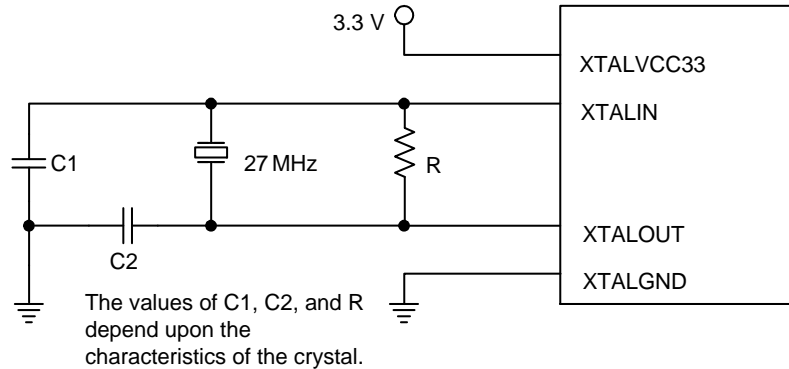
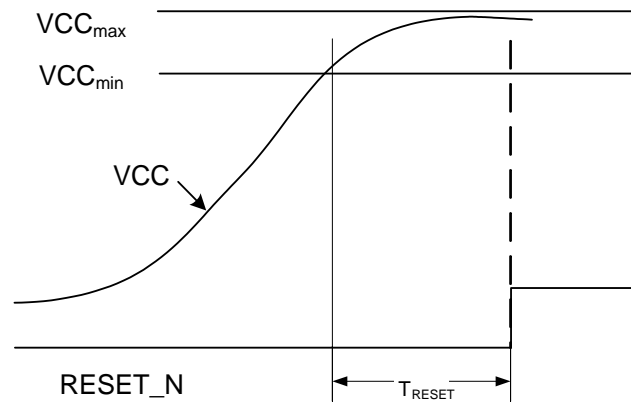
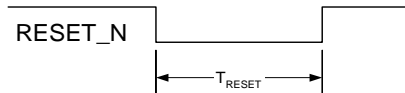

Figure 7. Audio Crystal Schematic
Figure 8. Conditions for Use of RESET_N
Figure 9. RESET_N Minimum Timing
- Reset on RESET_N signal can be LOW as the supply becomes stable (shown in Figure 7 on the next page), or pulled LOW for at least T_{RESET} (shown in Figure 9 on page 17).
VCC must be stable between the limits shown in the Normal Operating Conditions section on page 10 for T_{RESET} , before RESET_N goes HIGH, as shown in Figure 8. Before accessing registers, RESET_N must be pulled LOW for T_{RESET} . This can be done by holding RESET_N LOW until T_{RESET} after stable power, or by pulling RESET_N LOW from a HIGH state for at least T_{RESET} , as shown in Figure 9. **Note:** VCC can be one of RnPPWR5V or SBVCC5V.